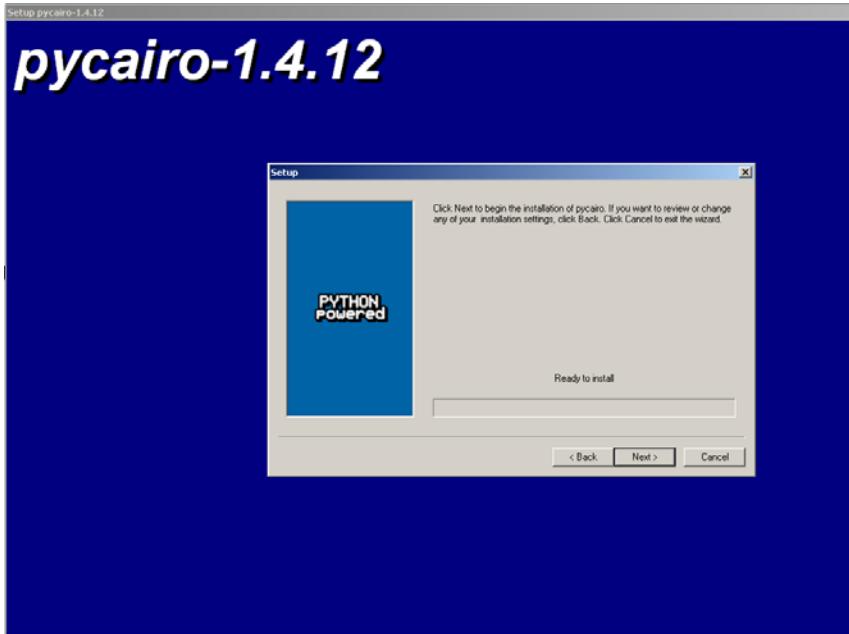

Figure 5-18. Installing PyCairo
3. When prompted to “Click Next to begin the installation,” click Next (Figure 5-18).